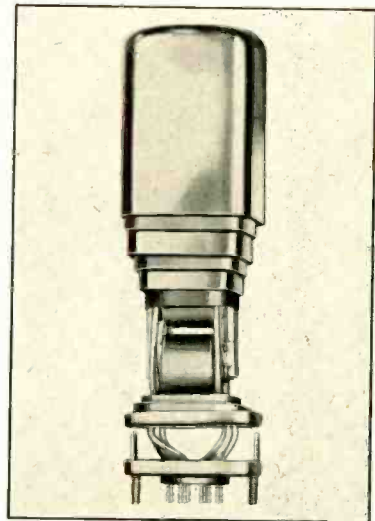

Fig. 2. Transformer case composed of nested alternate layers of nickel-alloy and copper shields.
C. MAGNETIC SHIELDING: The problems of shielding against stray fields and of the external case must be considered together when minimum size is to be maintained. Previous experience had indicated that a maximum of three high-permeability nickel alloy shields, interleaved with heavy copper shading rings, would be necessary to provide the reduction in pickup of stray fields needed for the lowest level transformers. Due to the wide range in transformer size and handling capacity, it was necessary to provide seven sets of case dies, each usable either as an external case or as an interior shield. These cases were designed so that the smaller cans nest within the larger with room between for the heavy copper shading rings, as shown in Fig. 2.